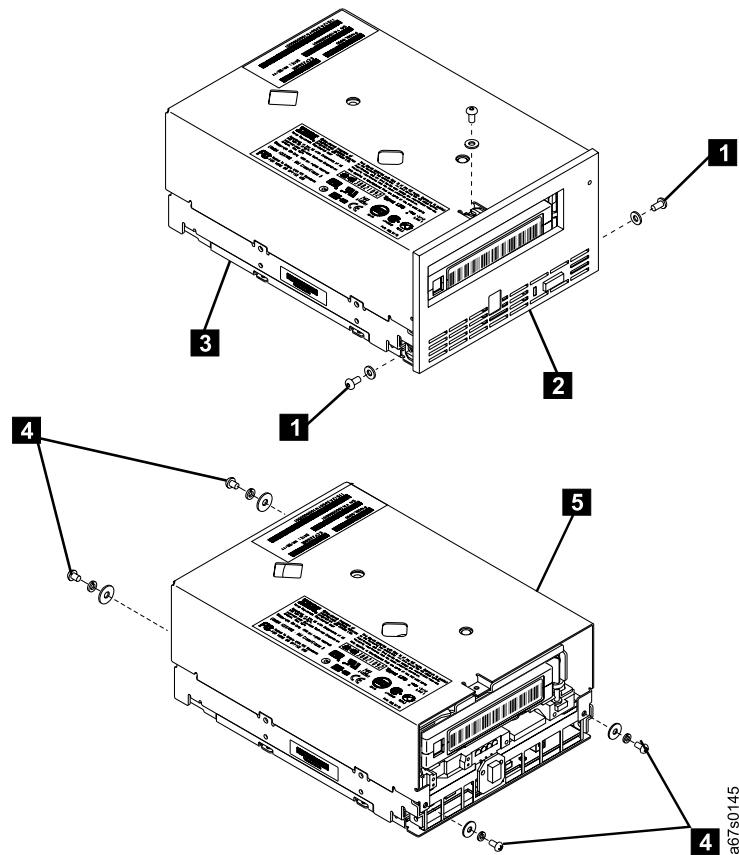

Figure 26. Removing the cover from the internal drive
1. Using a Phillips screwdriver, remove the three screws and washers (see **1** in Figure 26) that secure the bezel **2** to the internal drive **3**, then remove the bezel.